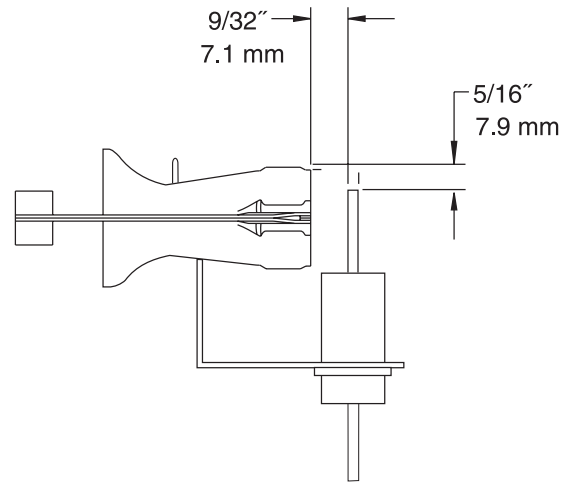
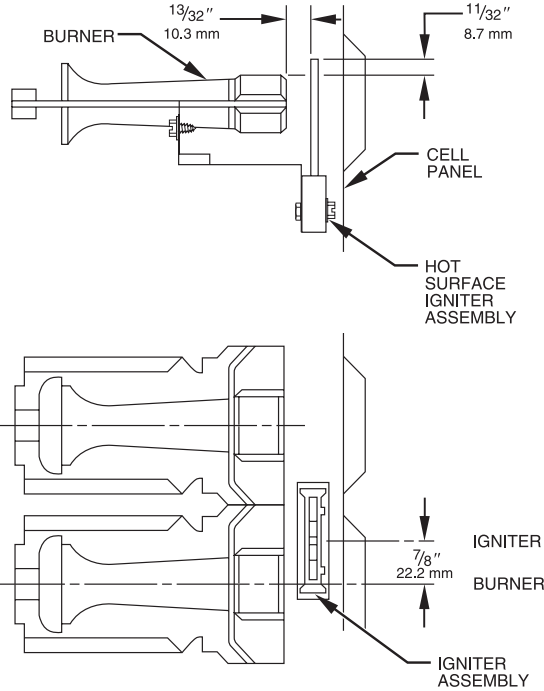

Fig. 5 - Igniter to Burner
Fig. 7 - Igniter to Burner
- d. Reattach HSI wires to HSI. Verify igniter to burner alignment. For Silicon Nitride igniters, see Fig. 5 and 6. For Silicon Carbide igniters, see Fig. 7.